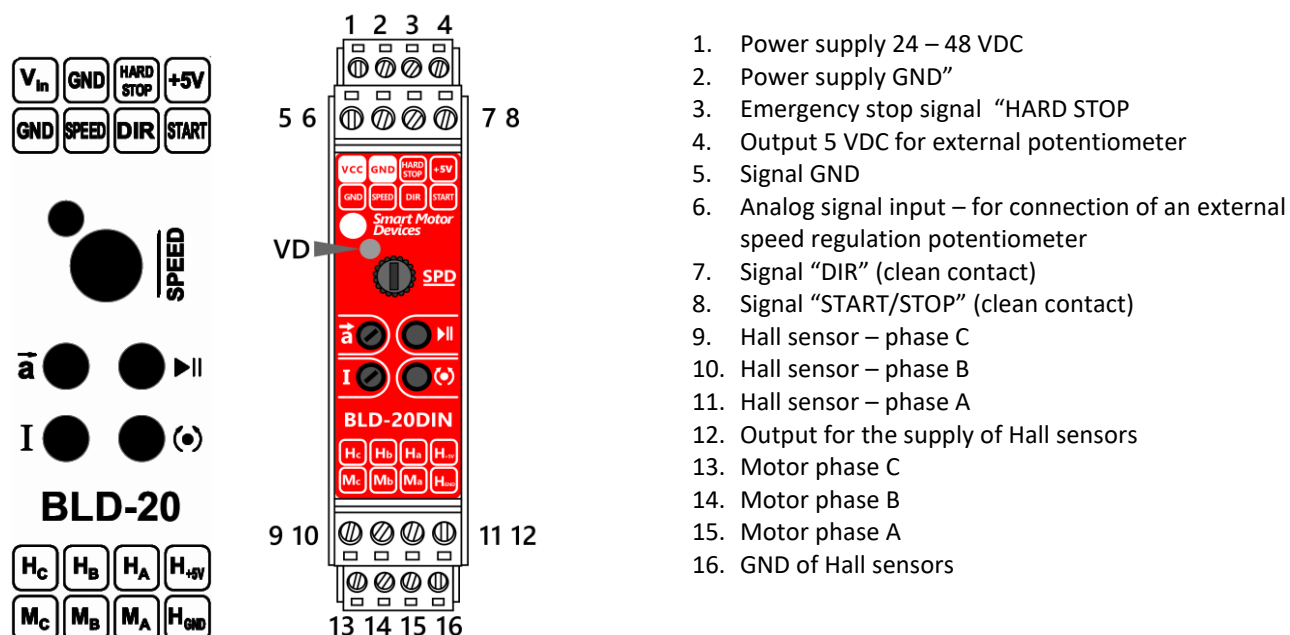

Fig. 2. Layout and assignment of terminals and control elements.
The connection scheme is shown in Fig. 2
The location of terminals and control elements are shown in Fig. 2.
1. Connect a motor to the controller according to Fig. 2 and 3. Motor phases must be connected to terminals 13 – 15. Hall sensor signals must be connected to terminals 9 – 11. GND of HALL sensors must be connected to terminal 16, supply of HALL sensor signals must be connected to terminal 12.